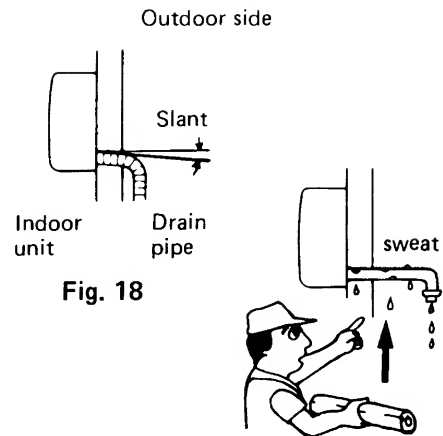

Fig. 18
- Drain piping should be slanted downward to outdoor. Fig. 18